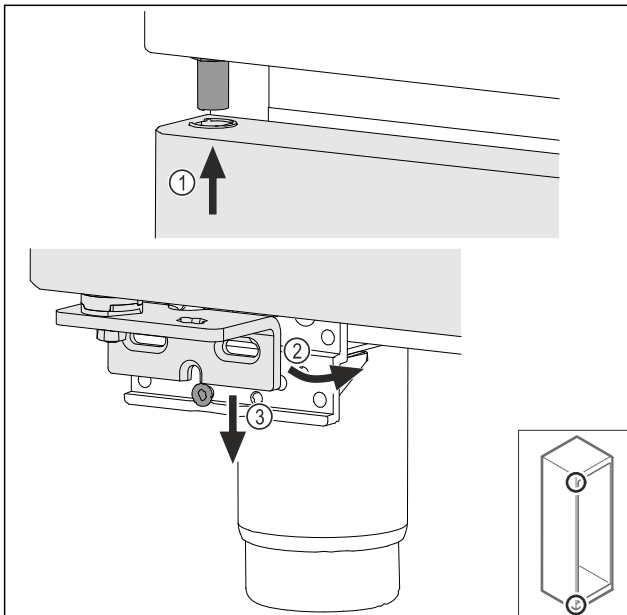

Fig. 70
- Insert the door slightly tilted at the top Fig. 70 (1), align the door straight Fig. 70 (2) and place it on the bottom of the swap bearing block screw Fig. 70 (3).